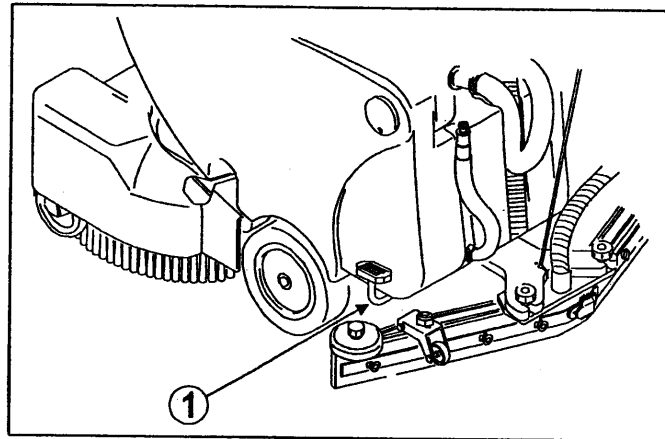

Fig. 9
Once you have arrived at the desired place, lift the small wheel by pressing downwards the pedal (fig. 9, ref.1).